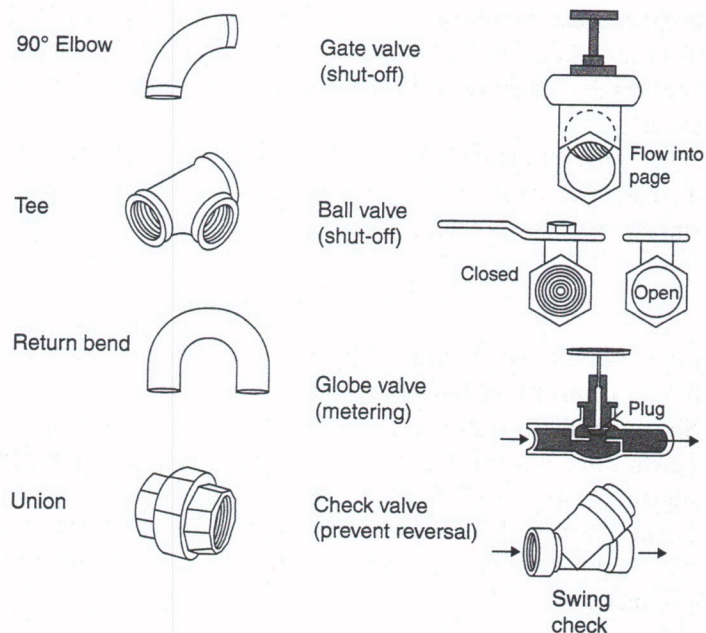

Figure 9.46
11. Apply the appropriate balances to the fittings shown in Figure 9.46 and show that the expressions obtained are consistent with Equation 1.120.